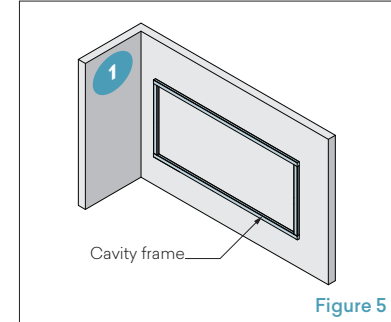

Figure 5
1. Fix the cavity frame to the rear wall. (Figure 5)